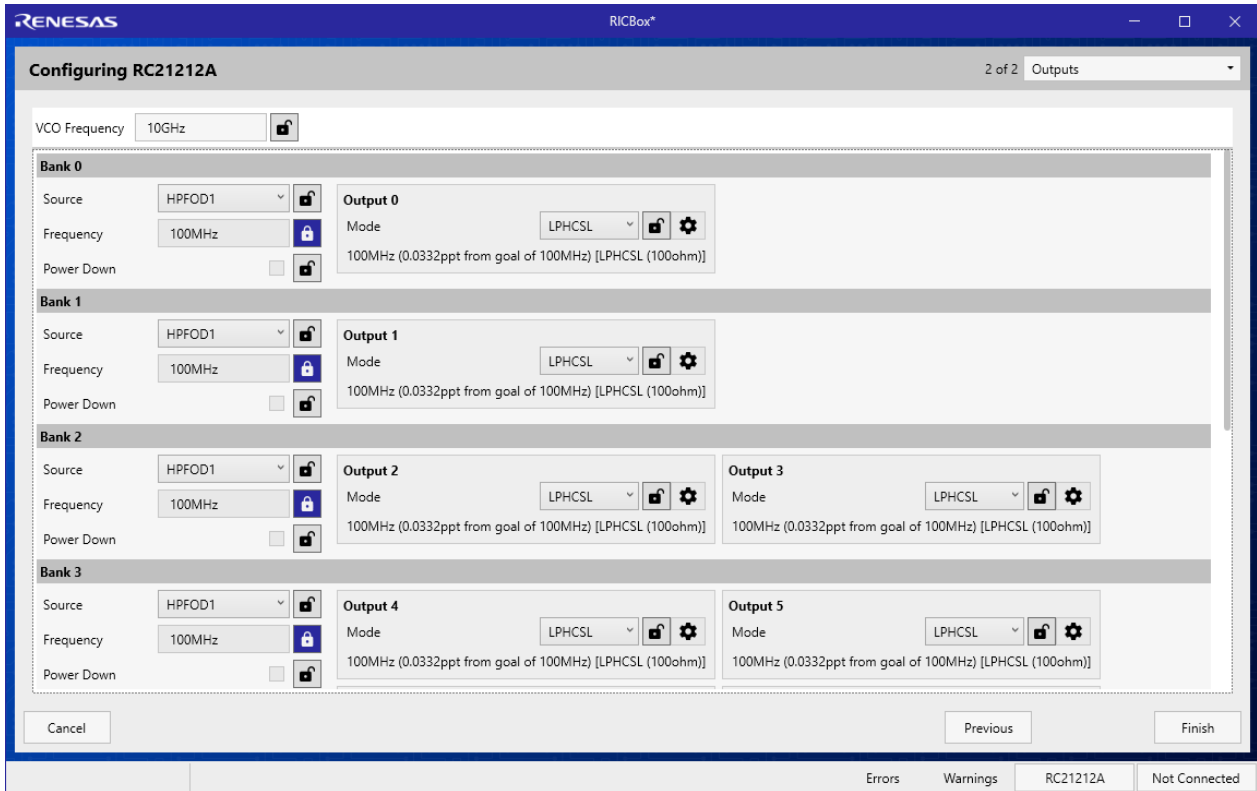

Figure 17. Outputs Wizard Page
- Click the *Finish* button (see Figure 17) to view the summary of the configuration.